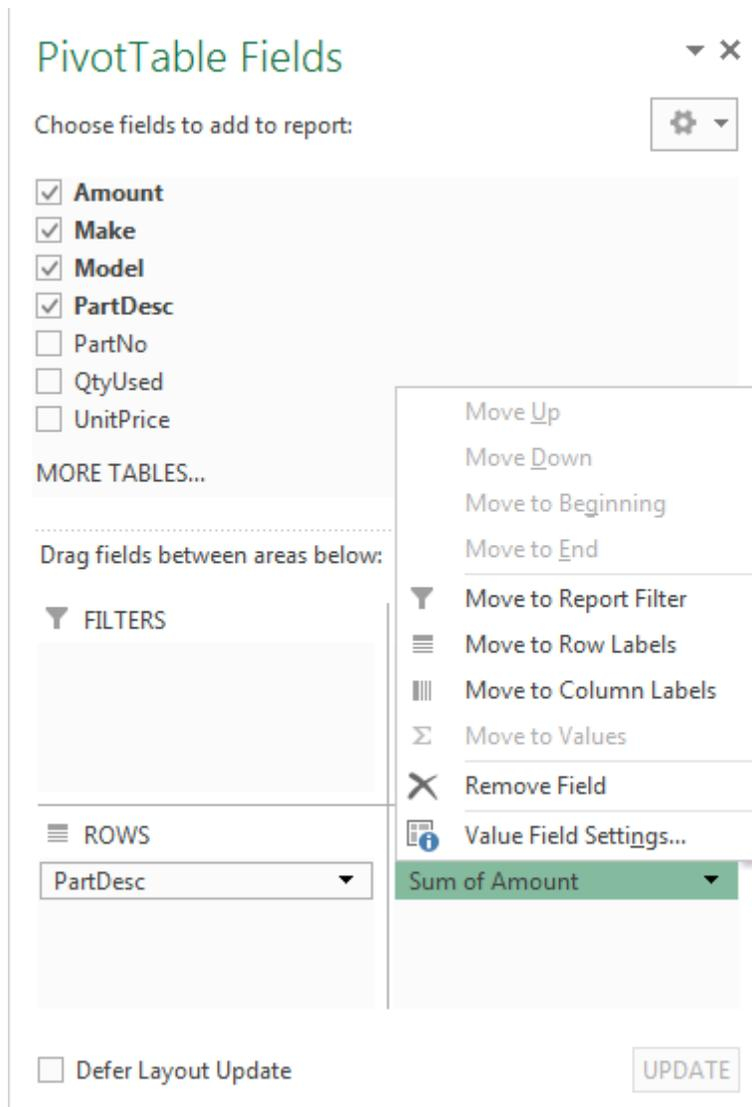
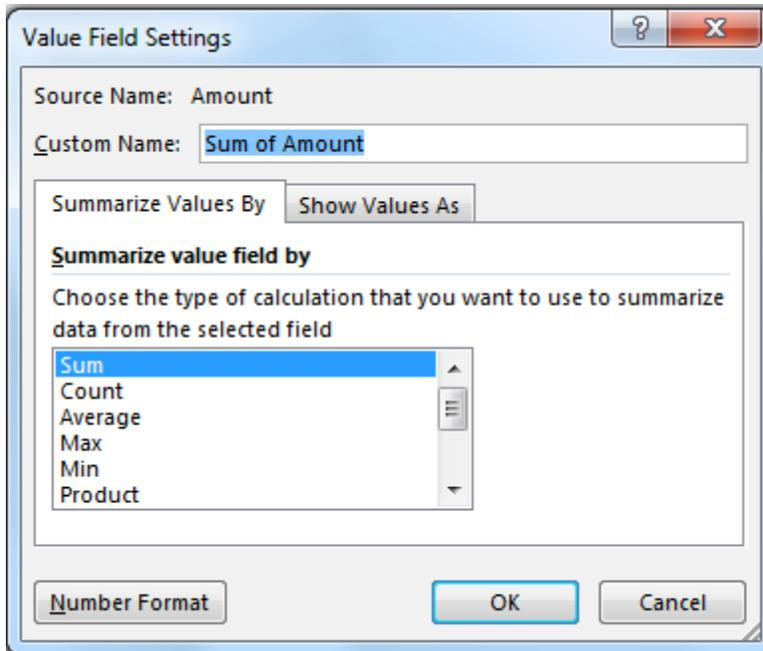
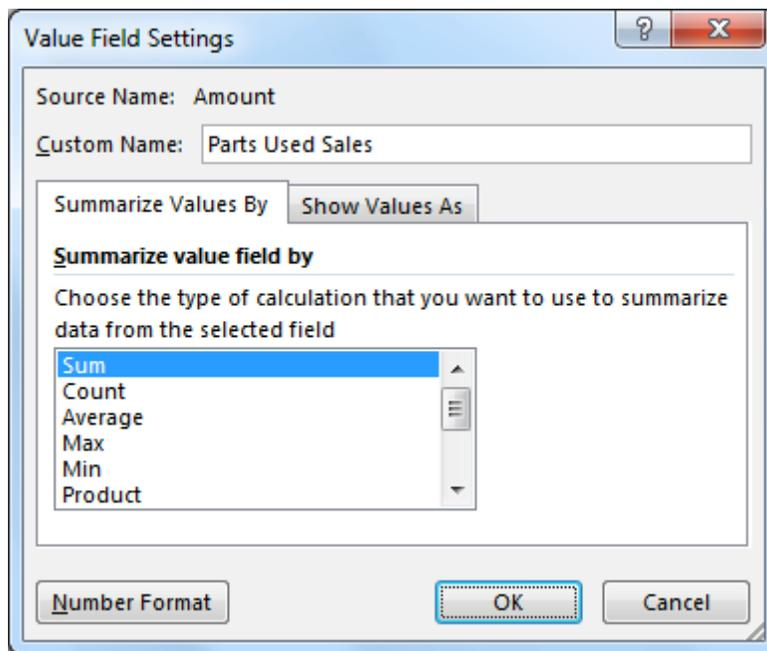
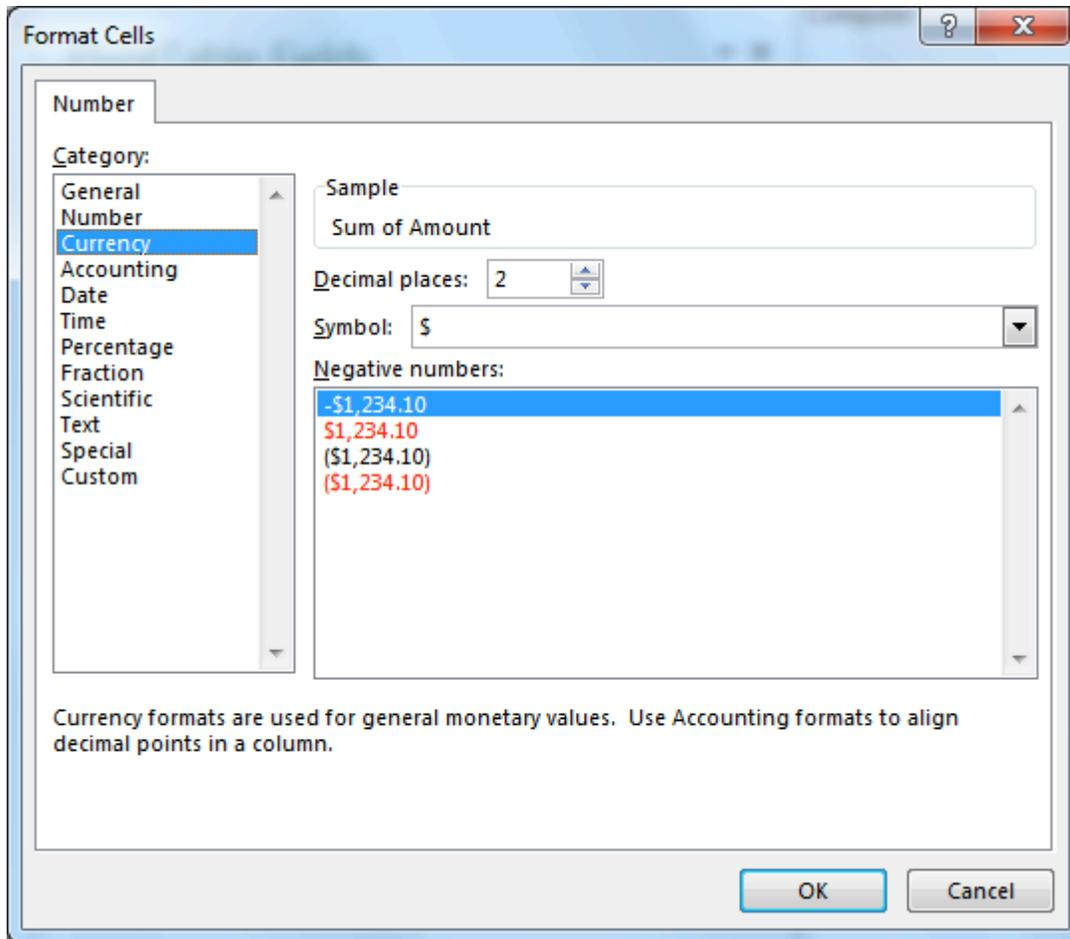

Figure 14: Value Field Settings Option
Figure 15: Value Field Settings Window
Figure 16: Changed Title Field Name
Figure 17: Changed Number Format
4. Format *Sum of Amount* field: To change the properties for the Sum of Amount field, click on the field title (“Sum of Amount”) in the values area. Then, choose the **Value Field Settings** option (Figure 14). A new window opens as in Figure 15. In the **Custom Name** area, change the name to “Parts Used Sales” (Figure 16). In the **Number Format**, change the Numbers to “Currency” (Figure 17) if there is another format specified. Click Ok when finished. In the diagram, the *Sum of Amount* field has changed to *Parts Used Sales* (Figure 18).